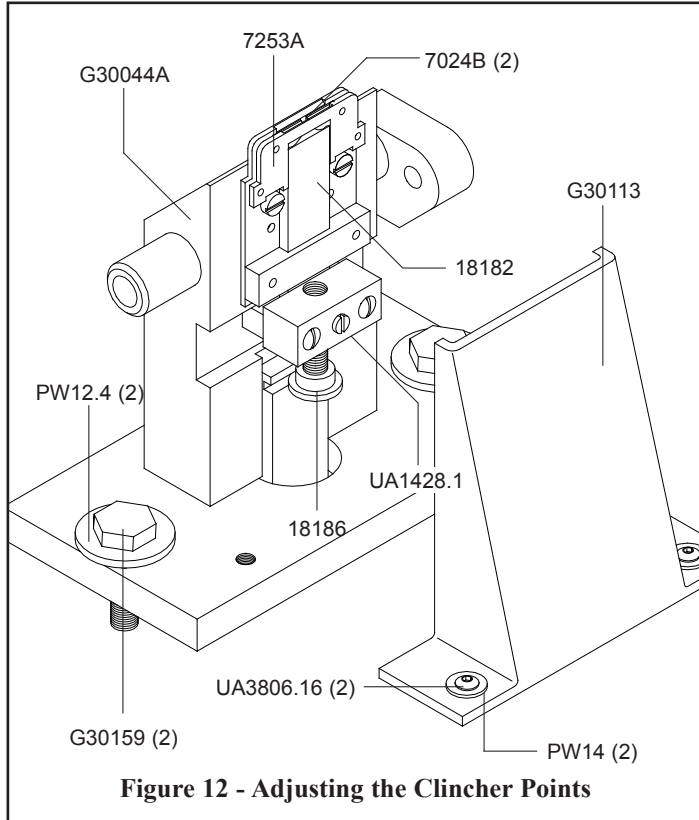
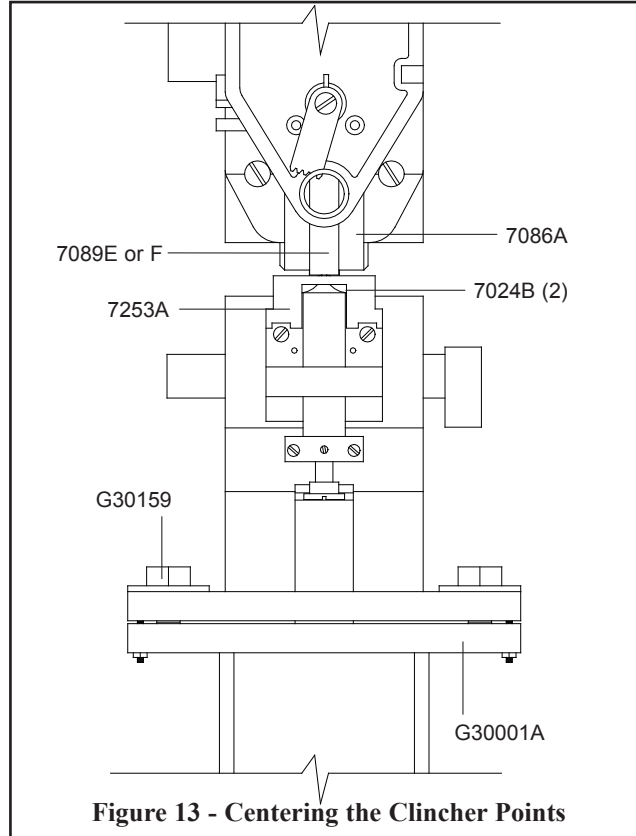

Figure 12 - Adjusting the Clincher Points
Figure 13 - Centering the Clincher Points
Adjusting the Clinchers (Figure 12)
If the staples are not clinching properly the Clincher Points (7024B) will need to be adjusted within the Clincher Plate (7253A). To check this, cycle the machine manually and stop the machine at the point of clincher activation. If the Points are positioned too high or too low, refer to the instructions which follow and **Figure 12** for an explanation. Loosen and remove the two (2)
If the stitch clinches properly but the legs are angled away from its crown, the Clincher Plate (7253A) may not be aligned with the Driver (7089E or F). Refer to both **Figure 12** and **Figure 13** and the following instructions for